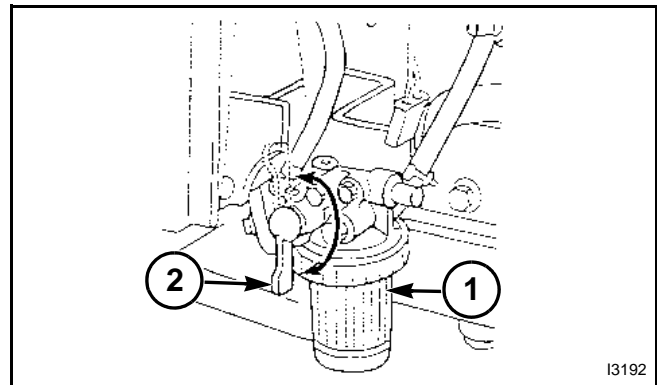

FIG. 9
FIGS. 9–10: Fuel filter assembly (1) is located at right side of engine, and is used to strain impurities from fuel before fuel reaches injection pump. Fuel filter incorporates valve (2) to aid in filter servicing.